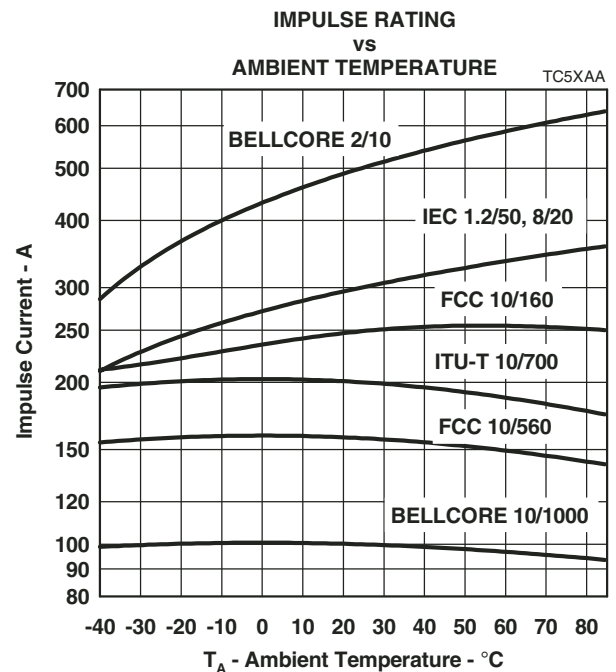

Figure 10.
4. See Figure 10 for current ratings at other temperatures.
If the impulse generator current exceeds the protector's current rating then a series resistance can be used to reduce the current to the protector's rated value and so prevent possible failure. The required value of series resistance for a given waveform is given by the following calculations. First, the minimum total circuit impedance is found by dividing the impulse generator's peak voltage by the protector's rated current. The impulse generator's fictive impedance (generator's peak voltage divided by peak short circuit current) is then subtracted from the minimum total circuit impedance to give the required value of series resistance. In some cases the equipment will require verification over a temperature range. By using the rated waveform values from Figure 10, the appropriate series resistor value can be calculated for ambient temperatures in the range of -40 °C to 85 °C.